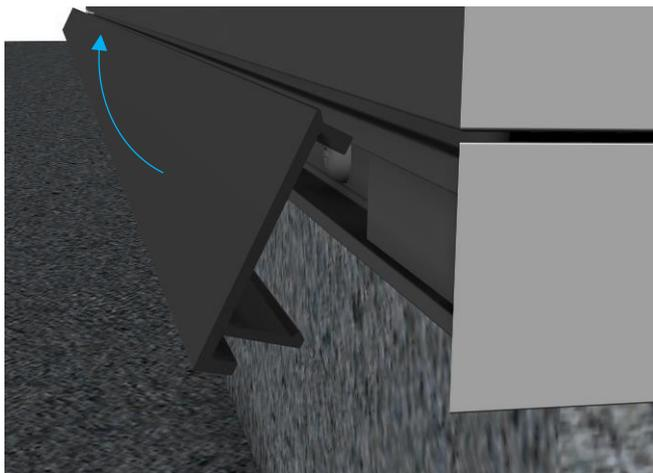

Figure 6 - Clip on cover
11. Gently prise the kerb fixing cover clip off framework drip leg (*Figure 6*).